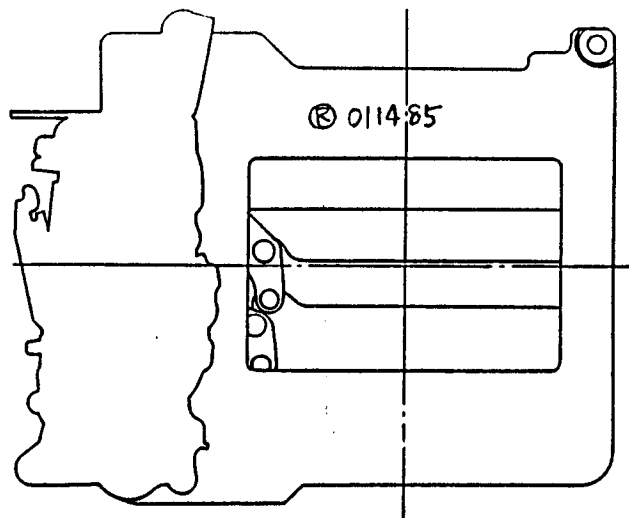

Figure 7.
4. Use a pencil to write the mark " (R) " and the date of repair on the aperture plate. It will give a reference for future repair. See Figure 7.